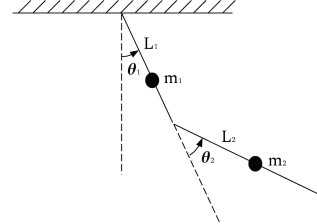

Figure 1: Arm model
2. Define configuration to represent shoulder and elbow angle (Figure 1)